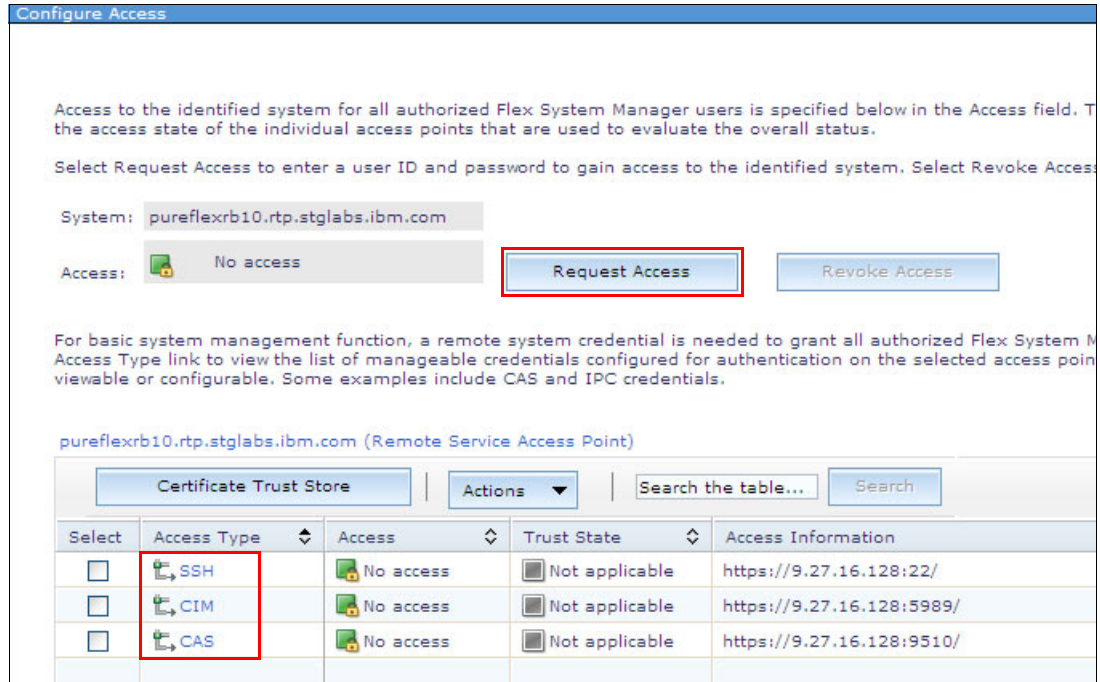

Figure 10-83 Configure Access window
3. Right-click the discovered system in the Resource Explorer, then click **Configure Access**. Check that the Common Agent Services (CAS), Common Information Model (CIM), and Secure Shell (SSH) protocols are displayed as shown in Figure 10-83. Click **Request Access**, then enter the correct credentials.